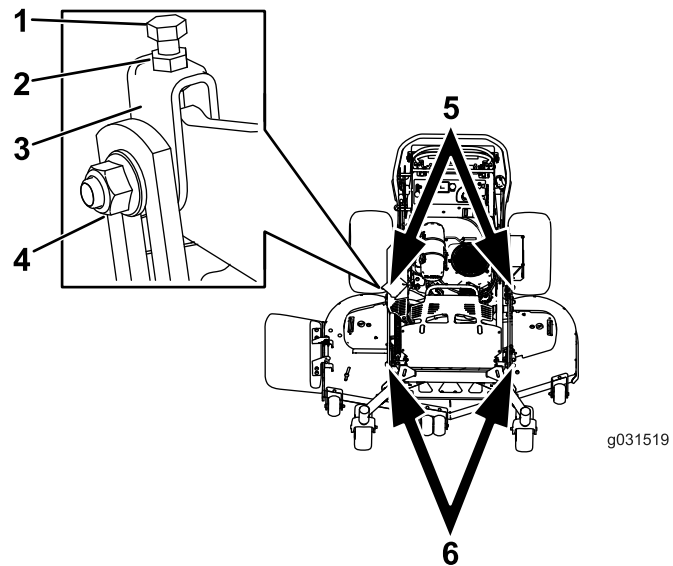

Figure 82
1. Loosen the jam nut and side bolt in the yokes that you want to adjust (Figure 82).
2. Rotate the top bolt of the yokes to adjust the height of the mower deck (Figure 82).
5. If the measurement is not correct, locate the front 2 yokes on the machine (Figure 82).